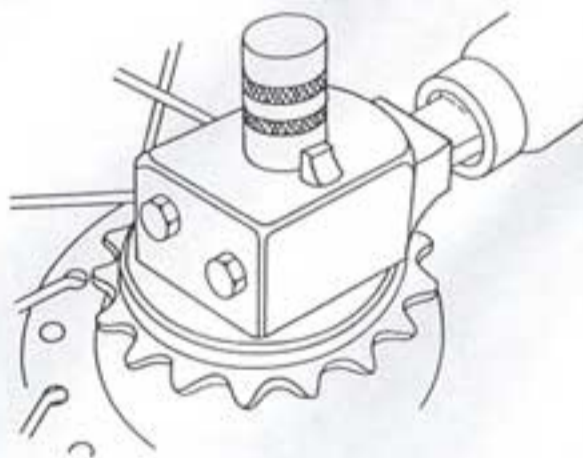

Fig. 2
- Remove the freewheel using Tool No. 100022 (fig. 2).